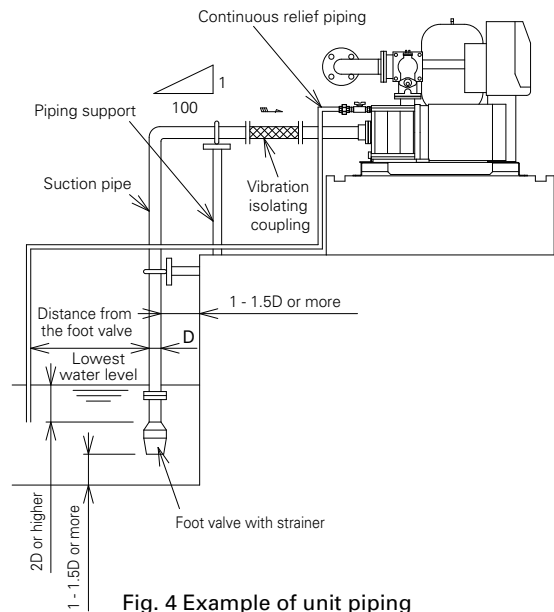
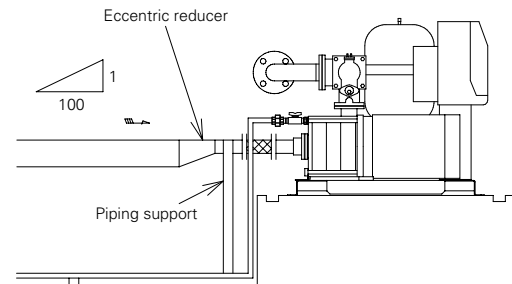

Fig. 4 Example of unit piping
Fig. 5 Example of unit piping
- (1) If the water supply source is located below the pump, negative suction type water supply unit is required.
- (2) In the worst case, water supply may be cut off if the work is not carried out correctly. However, if there are guidelines or instructions by the local government, please follow those instructions.
- (3) Be sure to install a foot valve with a strainer at the end of the suction pipe to prevent foreign matter from entering.
- (4) Install the foot valve at least twice the pipe diameter (D) below the lowest water level, and at least 1 - 1.5 times the pipe diameter (D) above the bottom and sides of the water tank. (See Fig. 4.)
- (5) Be sure to install the suction pipe for each pump. Make sure to provide a rising slope (at least 1/100 degrees) leading up to each pump to prevent the formation of air pockets inside the pipe. (See Fig. 4.)
- (6) The suction pipes must be as short and straight as possible with minimal bends. The bore of the suction pipes must be equal to or one size larger than that of the pump to minimize the piping loss.
- (7) When changing the diameter of the suction piping to a smaller one just before the pump, use an eccentric reducer to prevent the formation of air pockets. (See Fig. 5.)
- (8) Provide piping supports so that the weight of the piping is not applied to the main unit.
- (9) Do not install a gate valve on the suction pipe.
- (10) Provide a vibration isolation joint for the suction and discharge piping of the unit. However, do not mount the ball type vibration isolation joint on the suction piping, as air pockets may occur.
- (11) Carefully attach joints and other parts to the suction pipe to block air suction. Also, keep the number of joints as small as possible.
- (12) Do not use the piping material that may cause rust in the pipe, as this can cause unit failure.